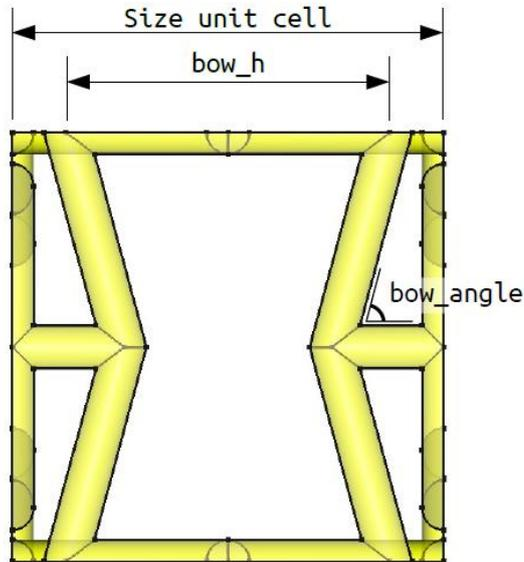

Figure 2: Geo 8 - Auxetic bow-tie.
1. Geo 8: Auxetic bow-tie, see Figure 2.
- `bow_h_min = 0.5`: minimum bow of cell 8 with respect to cell length, see Figure 2
- bow\_h\_max = 0.8: maximum bow of cell 8 with respect to cell length, see Figure 2
- bow\_angle\_min=65: minimum bow angle of cell 8, automatically corrected from bow\_h if too low, see Figure 2
- bow\_angle\_max=85: maximum bow angle of cell 8, should be lower than 90, see Figure 2